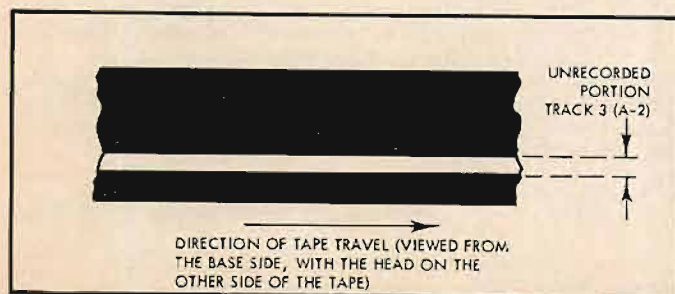

Fig. 10. Portion of RCA test tape No. 12-5-64T used for height alignment of four-track stereo tape heads.
1. **Test Tape.** RCA test tape No. 12-5-64T is illustrative of a tape containing a section—Part 1—specifically designed for height alignment of four-track heads. As shown in Fig. 10, the entire width of Part 1 of this tape is recorded except for a .043-inch band erased at the location of track 3, which is called A-2. The recorded signal is 1000 cps at 3.75 ips and 2000 cps at 7.5 ips. The instructions state: "In order to adjust the head assembly height, move the head up or down until the audible tone or the output meter reading on the A-2 track is at a null or minimum. Note that a head height either up or down from this proper position will cause an increase in signal level."